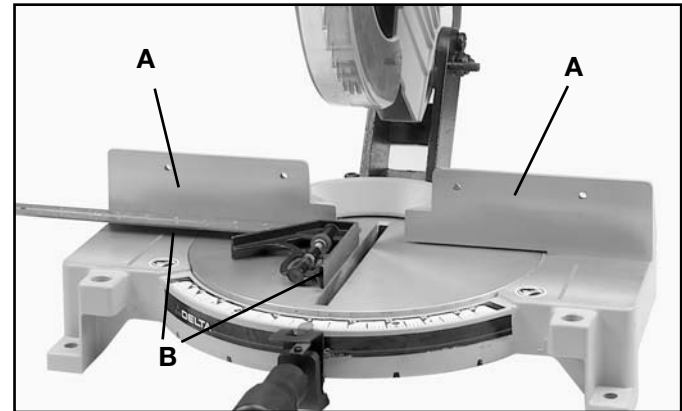

Fig. 21
If the fence (A) Fig. 21, is ever removed from the saw it should be adjusted so it is 90 degrees to the blade when it is replaced, as follows:
3. Using a square (B) Fig. 21, place one end of the square against the fence (A) and the other end against the slot in the table as shown.